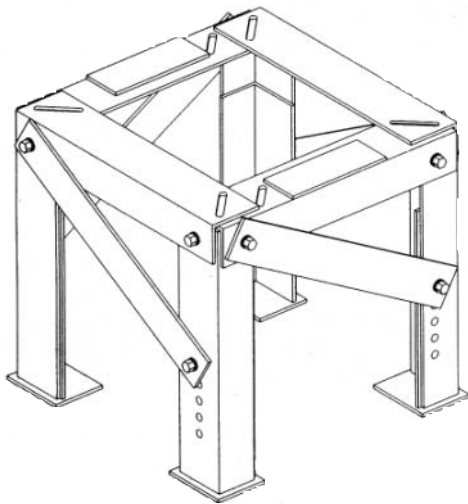

Figure 1-5.
3. Open the V1 knife switch (and V6 if present) on the back panel (Figure 1-5).
6. Open the SOURCE(S) disconnect switch.
7. Open the LOAD (L) disconnect switch.
8. Open the SOURCE-LOAD (SL) disconnect switch. (Delta application only.)